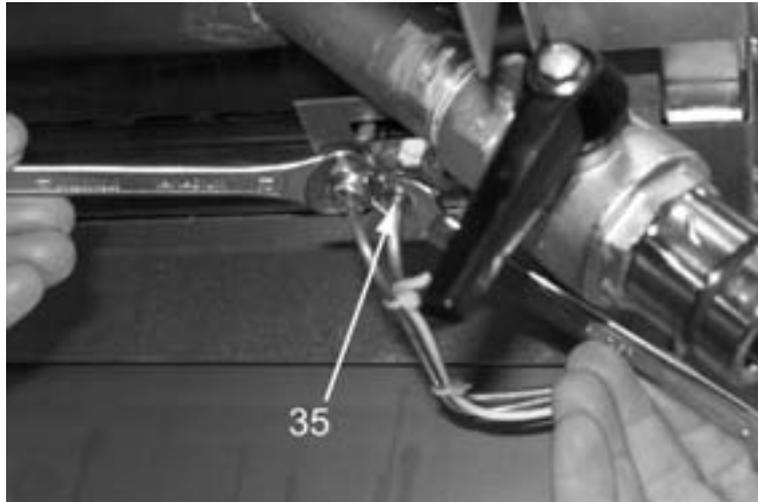

Fig. 18
The pilot burner has fixed nozzles and fixed air sleeve. To operate the appliance with other types of gas, you need to replace the nozzle (item 35 in Fig. 18) with the nozzle shown in "Table 2: burner specifications" according to the type of gas used. You do not need to adjust primary air.
- replace the pilot burner nozzle with a suitable one by unscrewing the nut shown as item 35 in Fig. 18 and using a fixed spanner (wrench) to counterbalance torsion;